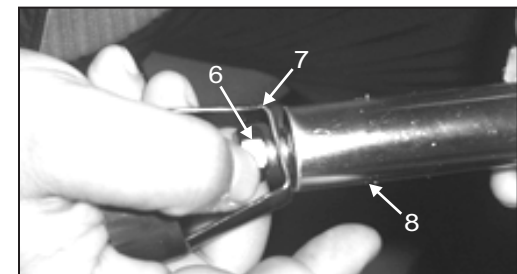

Fig. 5.14d
IMPORTANT: Do not dismantle the magnets (9) as these are assembled in polarity sequence and it should not be disturbed (fig. 5.14d).